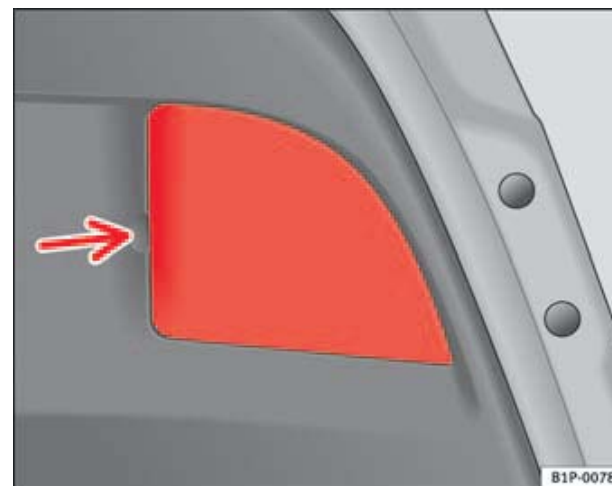

Fig. 171 Lights on the tailgate
- Pull the cover off. See the arrow ⇒ fig. 171.